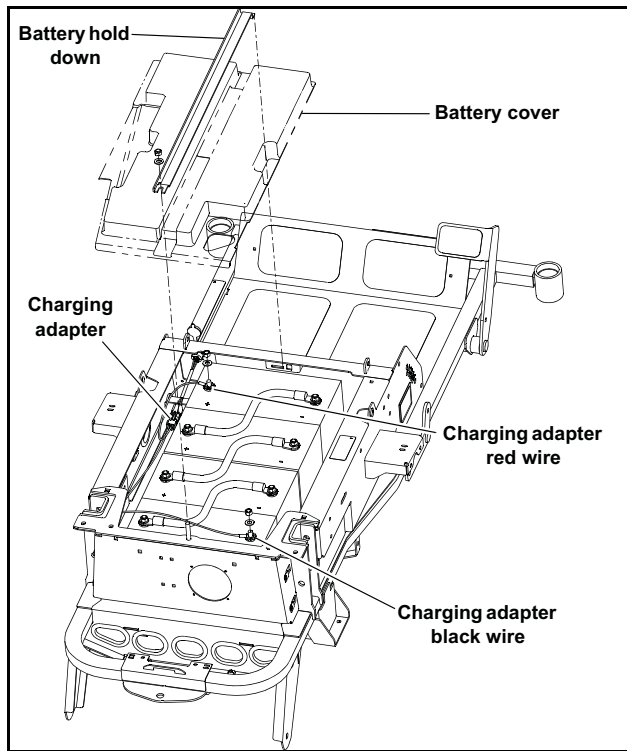

Fig. 5-11
6. Connect the charging adapter black wire to the negative battery terminal. Then, connect the red wire to the positive battery terminal. Fig. 5-11
8. Re-install the battery cover and battery hold down. Fig. 5-11
2. Remove the battery hold down and battery cover. Fig. 5-11
4. Disconnect the charging adapter black wire from the negative battery terminal. Then, disconnect the red wire from the positive battery terminal. Fig. 5-11